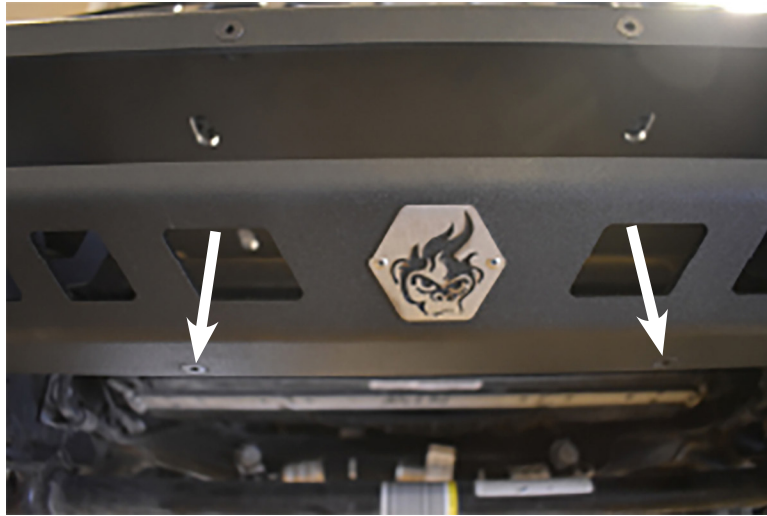

FIGURE 12
USE THE TWO (2) 3/4" LENGTH FLAT SOCKET CAP SCREWS BOTTOM CENTER AND FASTEN WITH THE TWO (2) PROVIDED SERRATED FLANGE NUTS (**FIG 12**). TORQUE 3/4" LENGTH HARDWARE TO 11 FT-LBS.